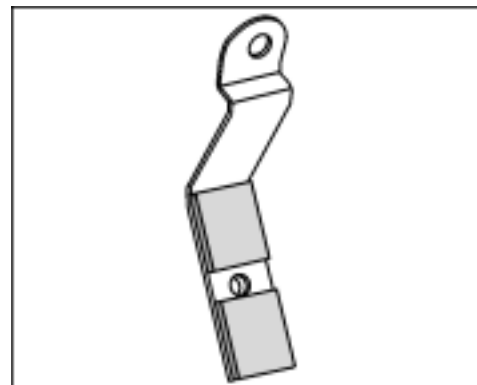

Figure 3
- 5.3 Affix both foam rubber strips on the holder as shown in ⇒ *Figure 3*.